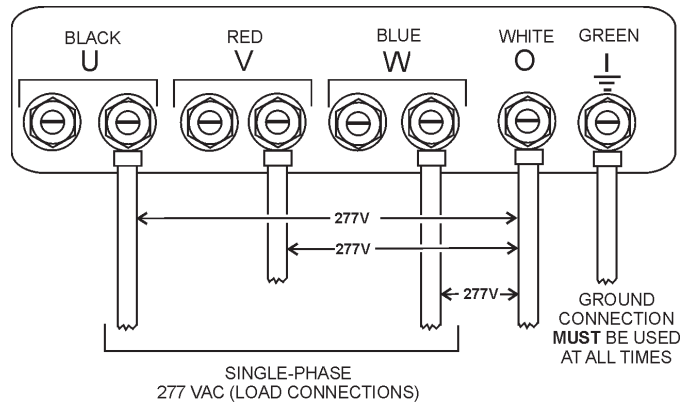

Figure 29. UVWU Terminal Lugs 1Ø-277V Connections
2. Connect the load wires to the UVWU terminals as shown in Figure 29.